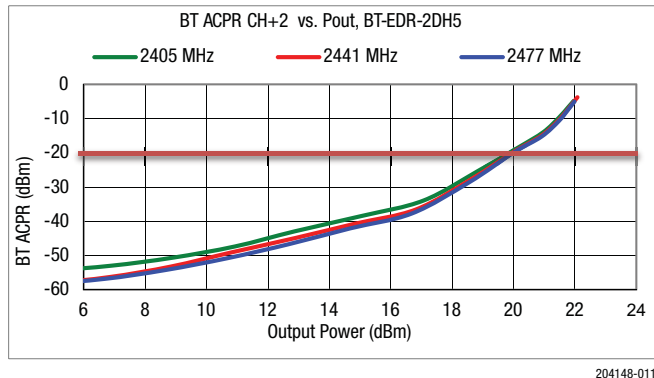

Figure 11. BT ACPR CH+2 vs POUT, BT-EDR-2DH5
The SKY66403 in high-linearity (HL) mode benefits from excellent adjacent channel power (ACP) performance in Bluetooth EDR applications. Typical ACP measurements for both EDR modulations ($\pi/4$ -DQPSK with 2-DH5 packets and 8-DPSK with 3-DH5 packets) are shown in Figures 11 through 14.